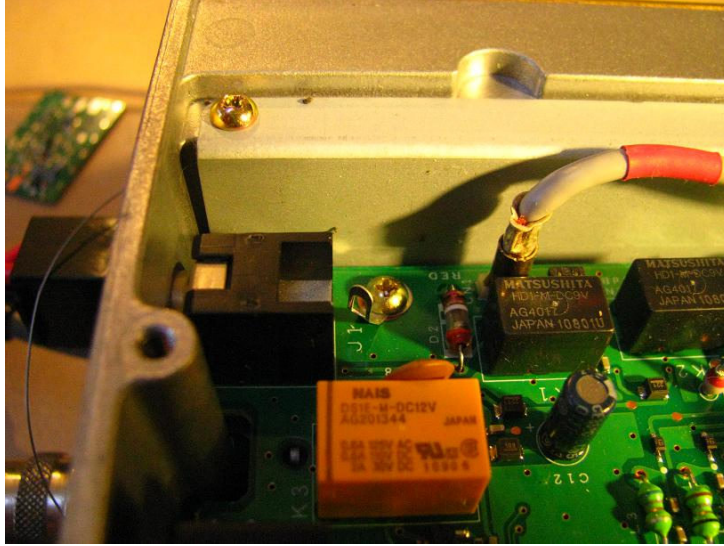

**Fig 2 – W1 connector with plastic housing removed – PAT board in right foreground**
- 6 The RF input to the board comes from the W1 connection, adjacent on the PCB. The plastic around the connector must be carefully removed so that the connections can be soldered in place – see Fig 2.